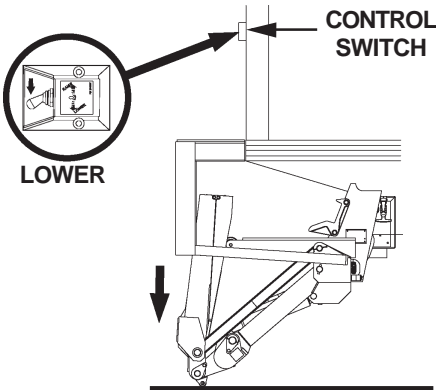
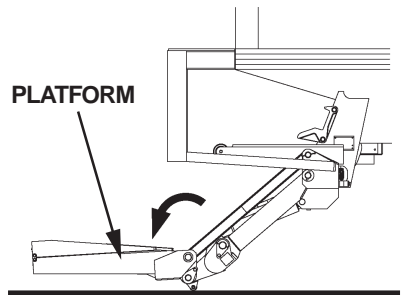
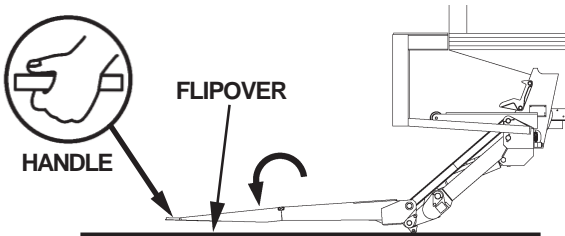

FIG. 6
FIG. 7
FIG. 8
2. Standing to the side of platform, push Control Switch to **LOWER** position as shown in FIG. 6. Lower Liftgate to the ground (FIG. 6). Manually unfold Platform (FIG. 7) and Flip-over (FIG. 8).